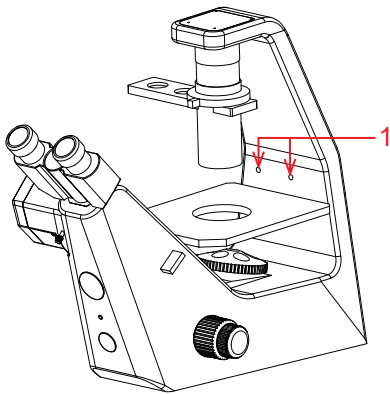

Figure 3
- 1) Remove the 2 screws of the microscope with a 4.0mm Allen key as in Figure 3;